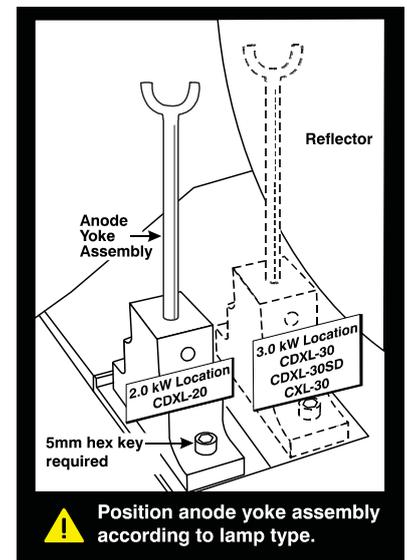

Figure 5-4 Lamp Yoke Position
- Check that the anode yoke (lamp yoke) is in the correct position. (**Figure 5-4**)